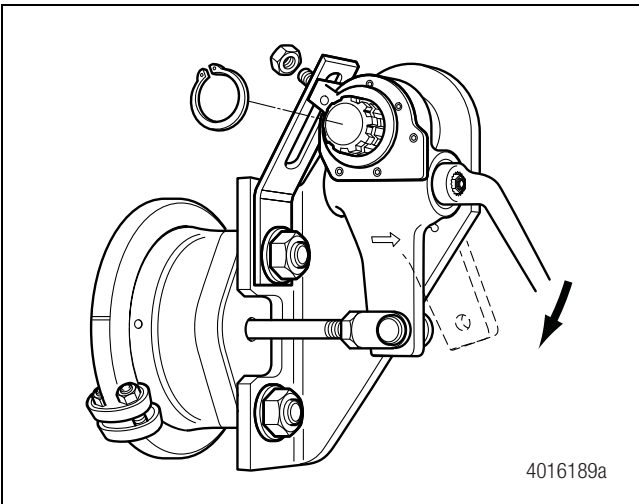

Figure 4
2. Check that the brake chamber push rod is in the fully released position as shown in Figure 4. With spring brakes, a minimum pressure of 80 psi (5.52 bar) is required in the system to ensure that the push rod is in the fully extended position.
5. Install the self setting automatic slack adjuster (S-ASA) onto the camshaft so that the adjustment hex nut points away from the air chamber. Figure 4.